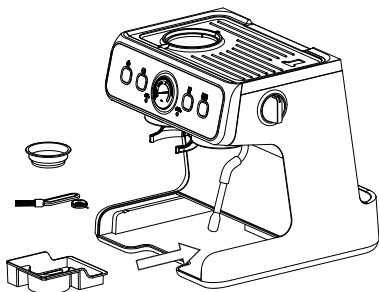

Fig. 8
The machine is equipped with a tool box (15) which is used for storing cleaning pins and cleaning brushes. Single-cup filters and double-cup filters can be stored in the toolbox as well. The tool box is placed at the left lower part of the appliance, where you can pull it out when you remove the drip tray from the machine (Fig. 8).